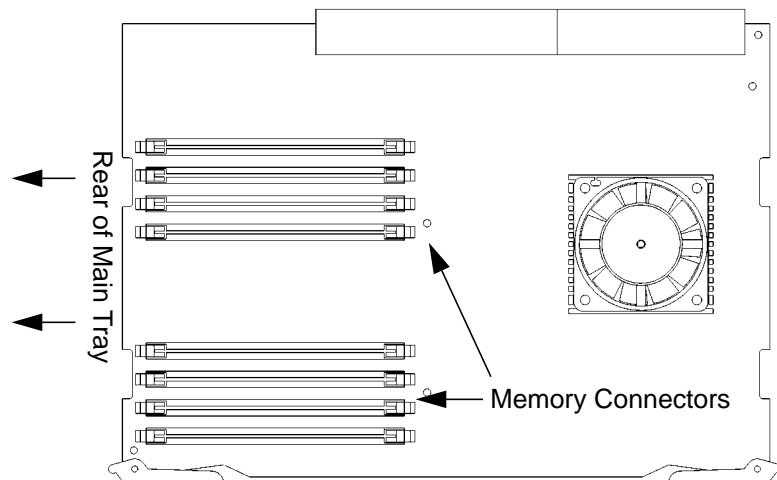
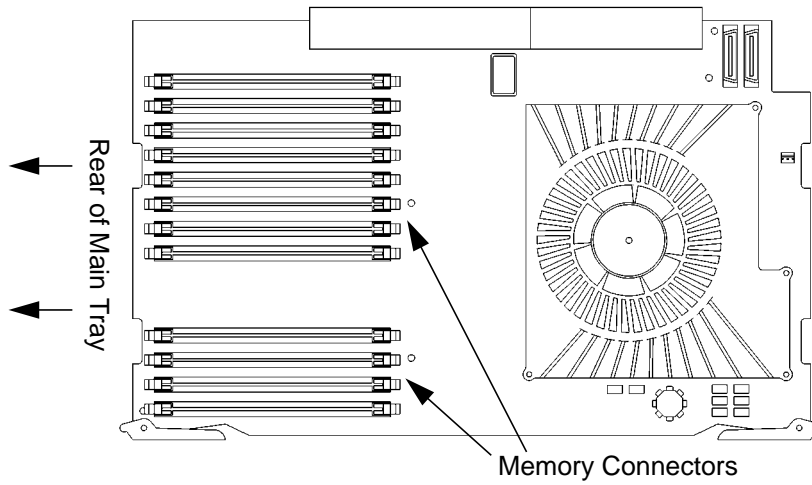

Figure 37 Memory Module Location (C100, C110)
Figure 39 Memory Module Location (C160/180/200/240/360)
- 1 Locate the memory modules on the CPU board, as shown in Figure 37 through Figure 39.